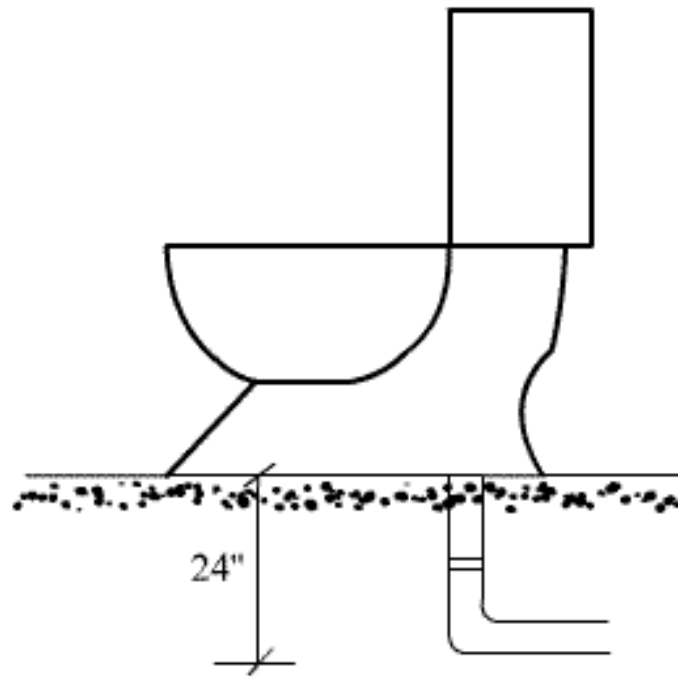

Figure 6.5. Vertical Drop for fixtures with Integral Traps.
7. The vertical drop of the pipe serving fixtures with integral traps, as water closets and similar fixtures shall not exceed 24 inches (Figure 6.5).